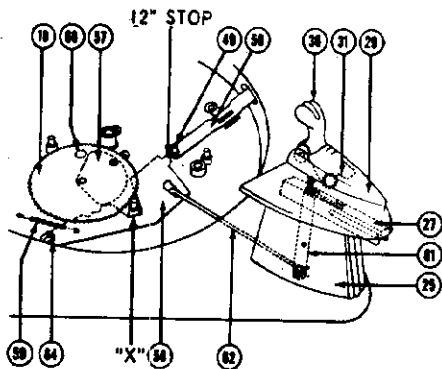
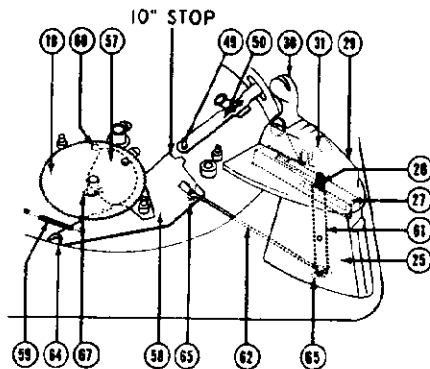

Fig. 6
Fig. 7
(Fig. 6)
1. When changer starts to cycle, Cam (57) under Main Drive Gear (18) actuates the Index Plate (58).
2. Index Plate (58) moves toward center of changer until it contacts lower right roller stud (see point "X" in Fig. 6).
3. Projection on end of Index Plate (58), designated as the "12 STOP," is now directly in the path of Stud (49) on Link Assembly (50).
4. As Pick-up Arm approaches record it moves Link Assembly (50) and attached Stud (49) until the stud comes in contact with the "12" STOP" (see Fig. 6)—this determines the correct set-down point of Pick-up Arm for 12" records.
5. After Pick-up Arm is lowered to the record, then Bottom Drive Roller (60) under Main Drive Gear (18) displaces the Index Plate (58) so that "12" STOP" projection disengages Stud (49) and permits Pick-up
<p>Record Support Arm (29) set to 10" position. (Fig. 7)</p>	<ol style="list-style-type: none"> 1. When Record Support Arm (29) is shifted to this position it moves Channel (27) which actuates Index Lever (61). That allows Index Link (62) to control the 10" setting of Index Plate (58). 2. When the changer starts to cycle, Index Plate (58) moves toward center of changer until it is stopped by Index Link (62). 3. Notch at end of Index Plate (58), designated as the "10" STOP," is now in the path of Stud (49) on Link Assembly (50). 4. As Pick-up Arm approaches record it moves Link Assembly (50) and attached Stud (49) until the stud comes in Contact with the "10" STOP" (see Fig. 7)—this determines the correct set-down point of Pick-up Arm for 10" records. 5. After Pick-up Arm is lowered to the record, then Bottom Drive Roller (60) under Main Drive Gear (18) displaces the Index Plate (58) so that the "10" STOP" disengages Stud (49) and permits Pick-up Arm to proceed across the record.